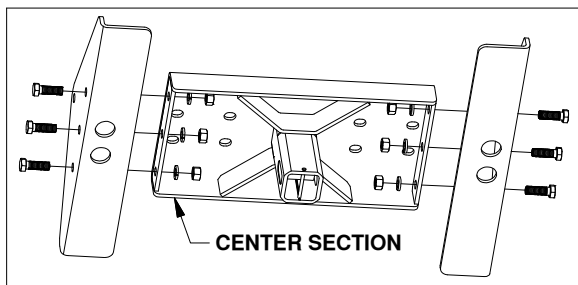
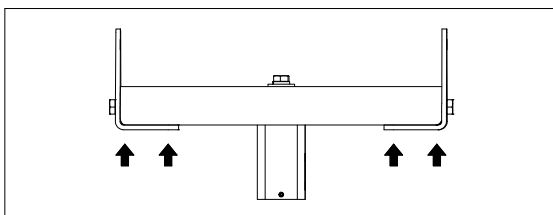

Figure B1: Underside view of center section and legs.
FIGURE B2: Front view of center section and legs.
1. **Attach legs.** Locate six 1/2" cap screws, 1/2" lock washers, and 1/2" nuts. Pass three cap screws through the outside of each base leg and hand tighten each cap screw with a lock washer and nut, as shown in Figure B1. While securely holding each leg against the bottom of the center section, torque each bolt to 110 ft-lbs, see Figure B2.